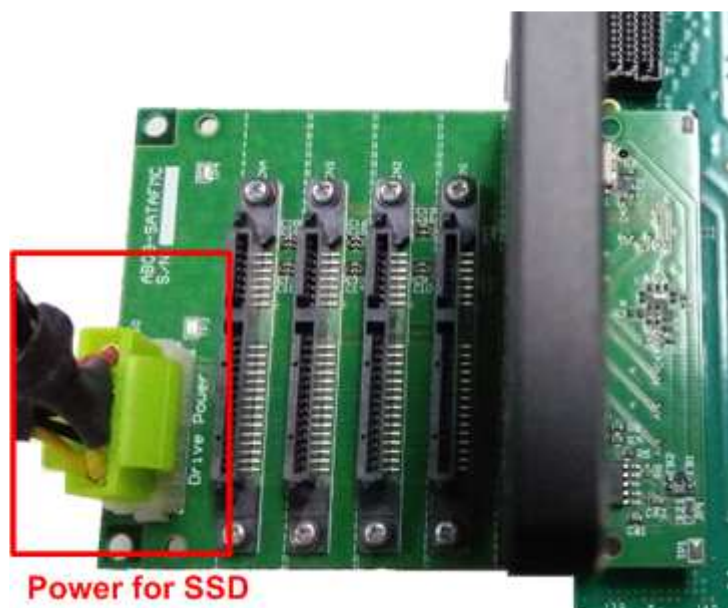

Figure 1-15 Power for SSD on FMC adapter
- b) For FMC adapter, ON power supply which is connected to power connector on the adapter, as shown in Figure 1-15.